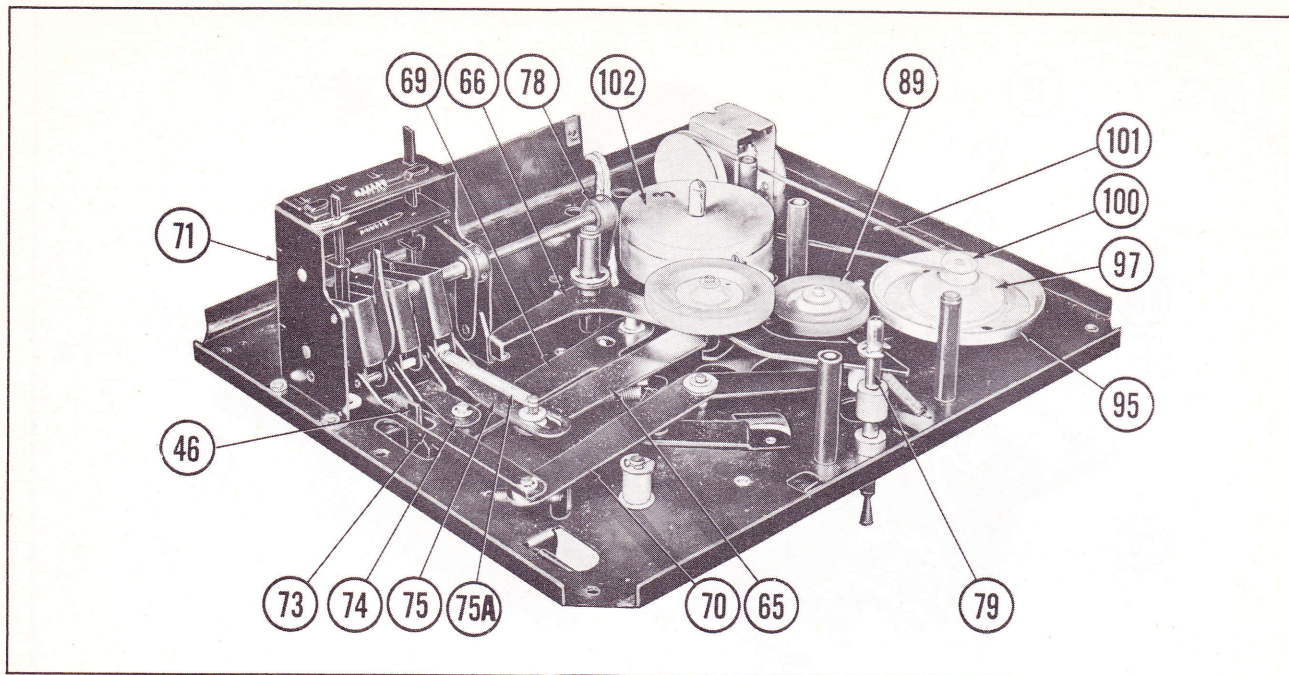

FIGURE 6
Oil on take up idler rim (95 Fig. 6).	Moisten cloth in alcohol and clean surface of rubber rim.
Clutch slipping on clutch wheel assembly.	Reposition clutch pulley (100 Fig. 6) on shaft and tighten Allen screw.
Fast forward lever spring (75A Fig. 6) off or broken.	Replace.
Brake lever (78 Fig. 6) loose on shaft.	Reposition brake lever (78) and tighten Allen screws.